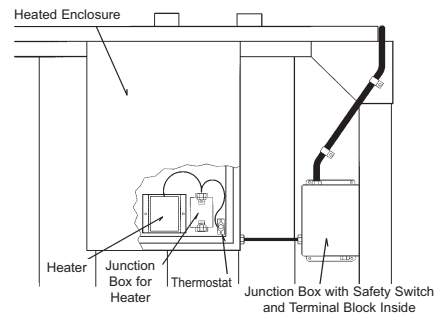

Figure 9. Heated Enclosure
5. If the Thermal Storage Unit will be exposed to sub-freezing ambient temperatures, the ice inventory sensor, Operating Control Assembly and Sight Tube must be protected from freezing. If this is not the case, contact your BAC Representative to order an enclosure and 100W heater to protect these controls from freezing. When the enclosure is in place, check the thermostat and heater assembly (*See Figure 9* in the Operation and Maintenance Manual for the Thermal Storage Unit) to ensure they are operative and maintaining an above freezing temperature within the controls enclosure.